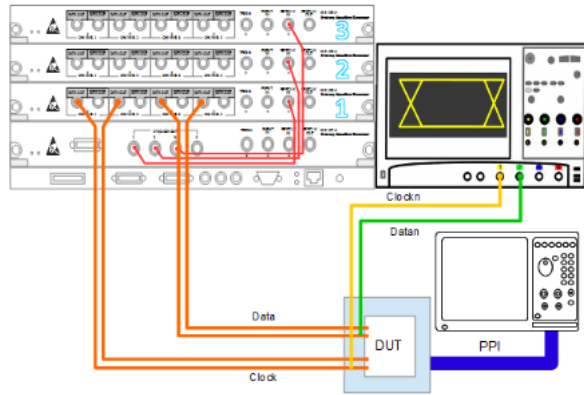
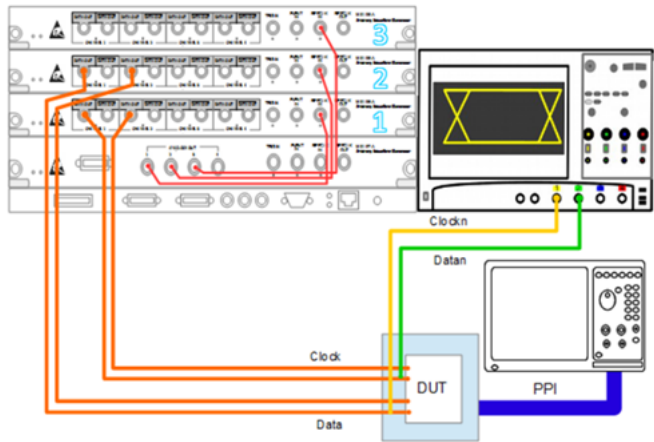
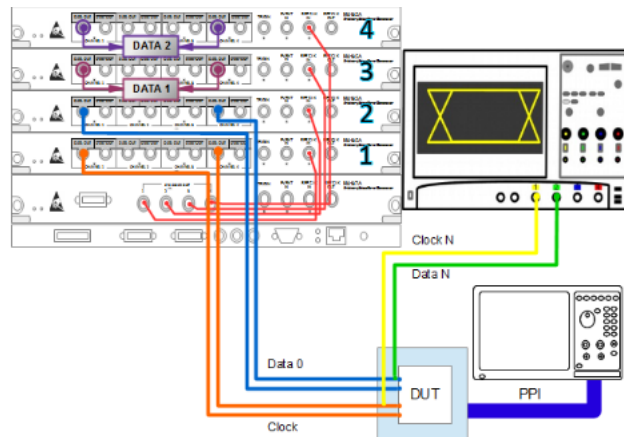

Figure 45 M8195A single module connection setup
Figure 46 M8195A multi module connection setup
Figure 47 M8195A Dual-Channel mode connection setup
- Make the connections for the selected test procedure as per the connection diagram shown in Figure 45, Figure 46 and Figure 47 for M8195A AWG.